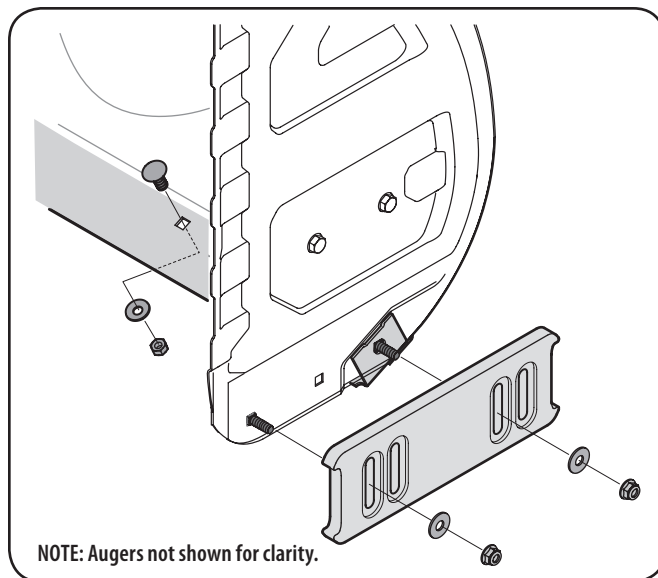

**Figure 6-1**
2. Rotate and reassemble skid shoes with the four carriage bolts (two on each side) and hex flange nuts. Refer to Figure 6-1.